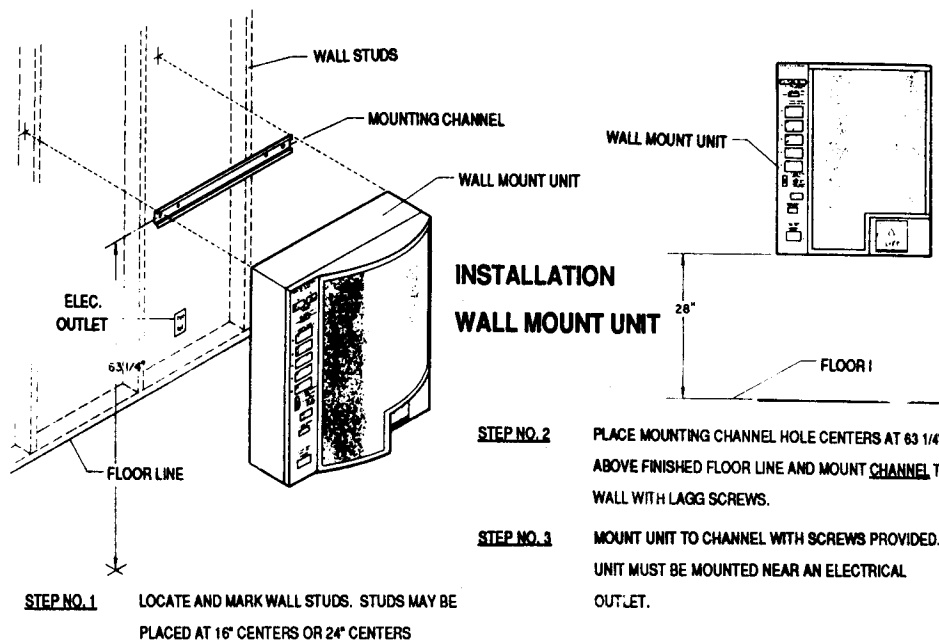

Figure 2b.
4. Loosen screws securing upper mounting channel to back of unit and remove channel. Secure the upper mounting channel to wall (see fig. 2b). Hang the unit on the mounting channel. Retighten screws in upper channel. Insert lag screws through lower mounting holes in back of cabinet.